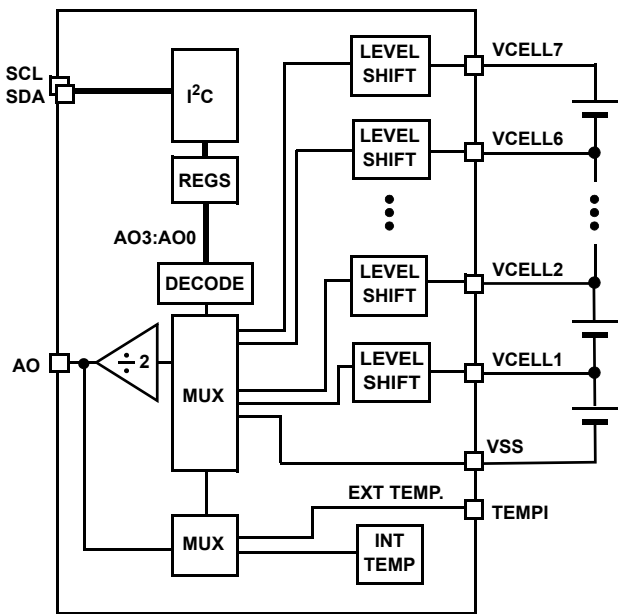

FIGURE 20. ANALOG OUTPUT MONITORING DIAGRAM
The ISL94208 devices can be used to externally monitor individual battery cell voltages and temperatures. Each quantity can be monitored at the analog output pin (AO). The desired voltage is selected using the I2C interface and the AO3:A00 bits. See Figure 20 and Table 6 on page 17. Remember to reset the AO3:A00 bits to '0000' after measurements to minimize unnecessary current draw from the cells.